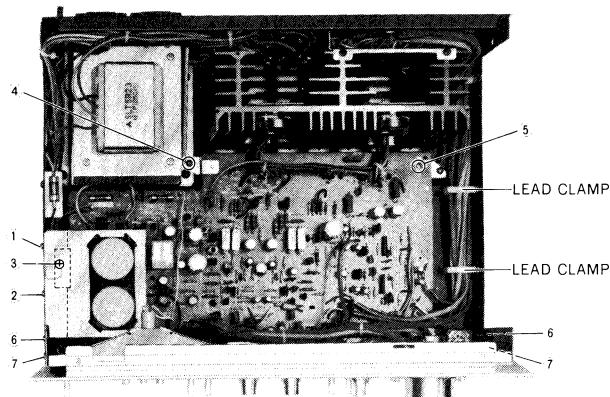

Fig. 2
6. Remove two (2) printed circuit board-mounting screws. (Refer to Fig. 2: ④ and ⑤)
7. Remove four (4) panel-mounting screws. (Refer to Fig. 2: ⑥ and ⑦, left and right side.)
2. Remove wire from lead clamps. (Refer to Fig. 2).
3. Remove two (2) electrolytic capacitor-bracket-mounting screws. (Refer to Fig. 2: ① and ②).
5. Remove a screw (Refer to Fig. 2: ③) and printed circuit board-metal clamp.